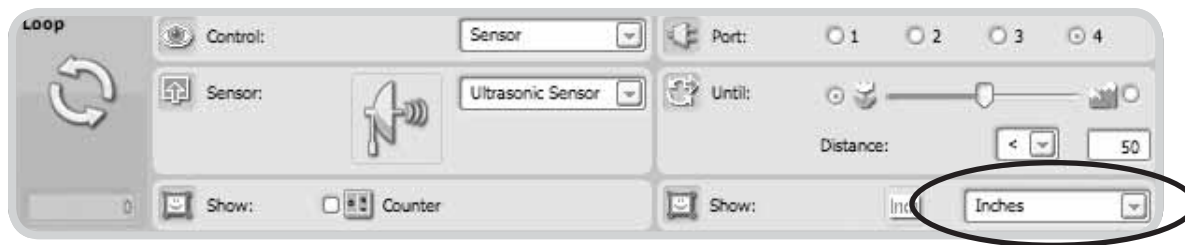

Figure 2-4: A configuration panel showing Inches at the lower right
- 1 Click the pull-down menu next to *Inches* (seen at the lower right of Figure 2-4) and select **Centimeters**. It is important that you do this first.